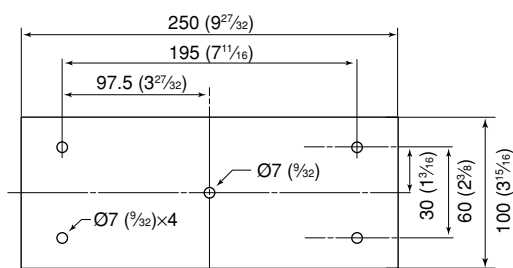

Fig. 1
- ① Hold the mounting bracket up to the selected location and mark pilot holes for the 5 installation holes using the template.
- ② Drill 5 holes of 3 mm ($\frac{1}{8}$ in) in diameter as shown in the diagram. (Fig. 1)